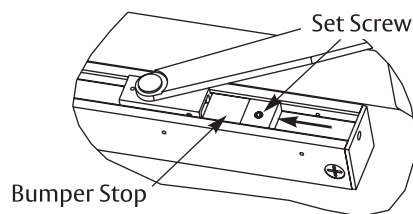

Figure 30
- Tighten set screw in bumper stop so bumper will stay in position. (Figure 30)